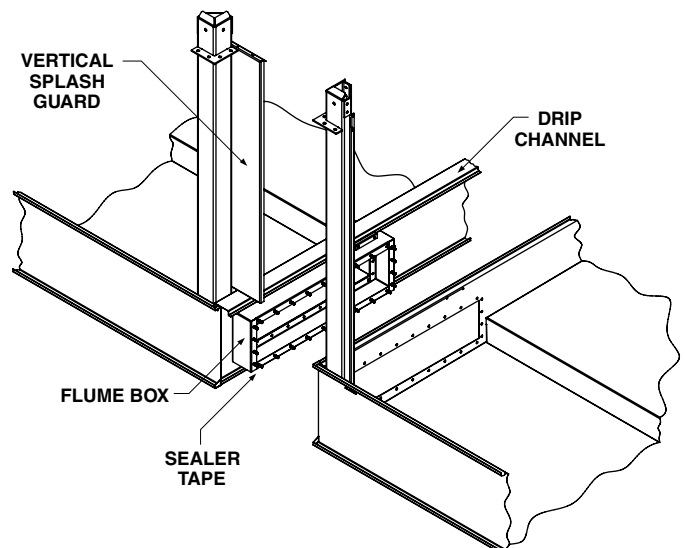

Figure 5 - Equalizer Flume Connection, 12' Wide Models
2. Clean the flanges on the equalizer flume on the end to be field connected. Apply a layer of sealer tape on the flange centered between the hole centers and the outside edge. Remove paper backing strip from the sealer tape. (See Figure 5.)
9. Place the vertical splash guard in the bend of the vertical supports. Attach the vertical splash guard using 5/16" tappers. For stainless steel construction, attach the vertical splash guard using 5/16" stainless steel nuts and bolts. (See Figure 5.)